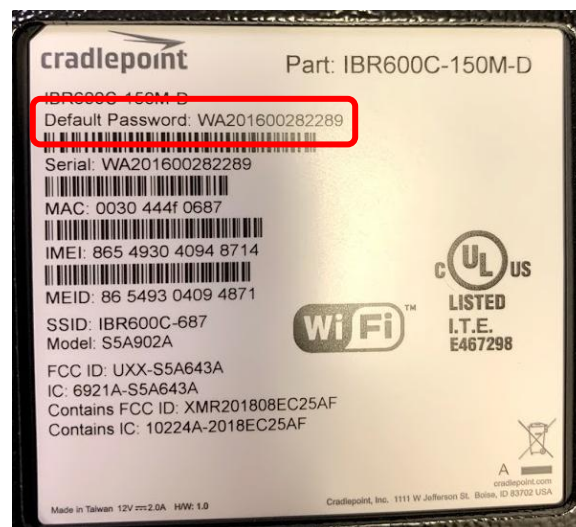

Figure 16: Cradlepoint NetCloud Login Password
- B. Login to Cradlepoint NetCloud. The username is "admin", and the password is found on the router, shown in Figure 16.